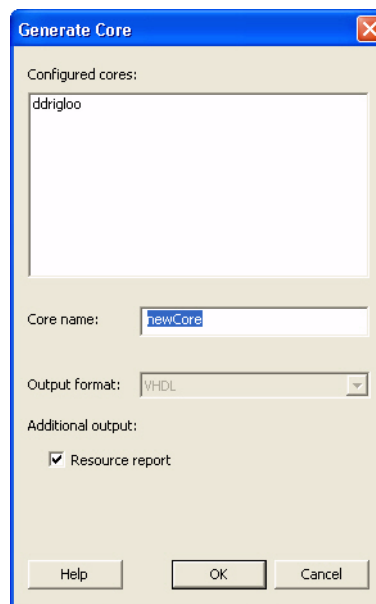

Figure 13-5 • Generate Core Window
5. Once the desired configuration is selected, click the **Generate** button. The Generate Core window opens (Figure 13-5).